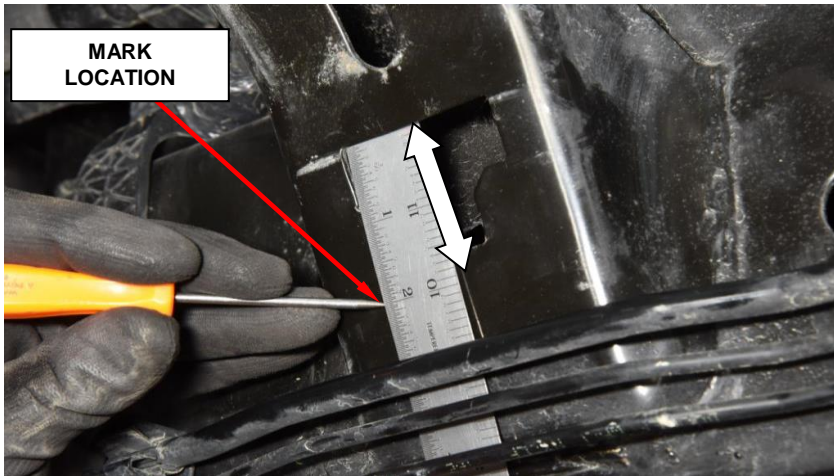

Figure 14 – Frame Opening
39. Using a ruler or equivalent measure two inches (50 mm) down from the top of the front fuel strap opening and place a mark. Repeat on the opposing side and connect the two parallel lines (Figure 14).